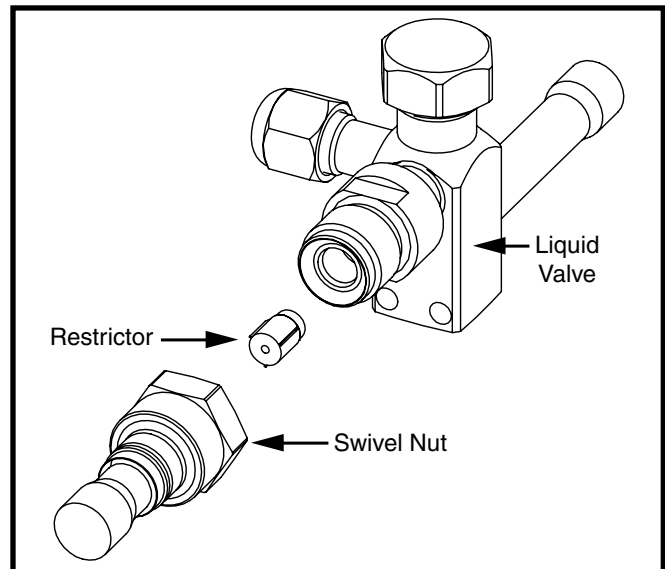

Figure 2. Liquid Valve, Restrictor, & Swivel Nut Adapter
If the outdoor unit has the liquid valve shown in Figure 2, then the restrictor is located inside the swivel nut connection of the liquid valve and not inside the outdoor unit's distributor. Perform steps 1 - 5 if the outdoor restrictor needs to be changed.
4. Insert the new orifice into the valve body, with the rounded end facing into the valve. See Figure 2 (page 4).